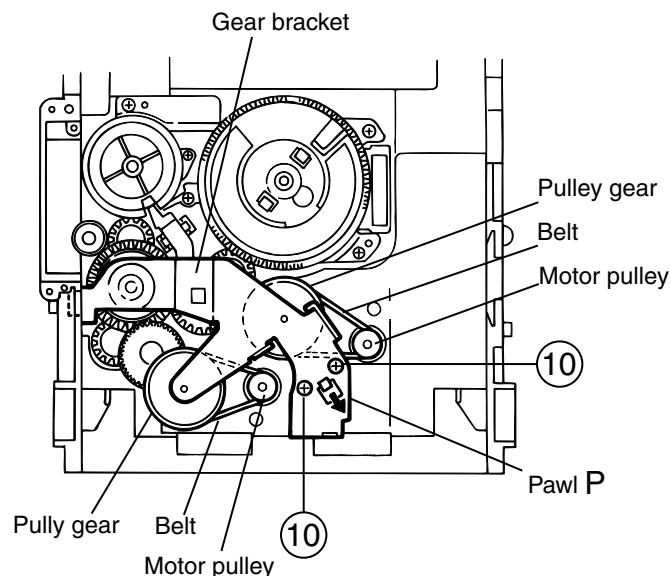

Fig.19
■ Removing the actuator motor and belt (See Fig.19~22)
(See Fig.19).
actuator motor pulleys and pulley gears(See Fig. 19).